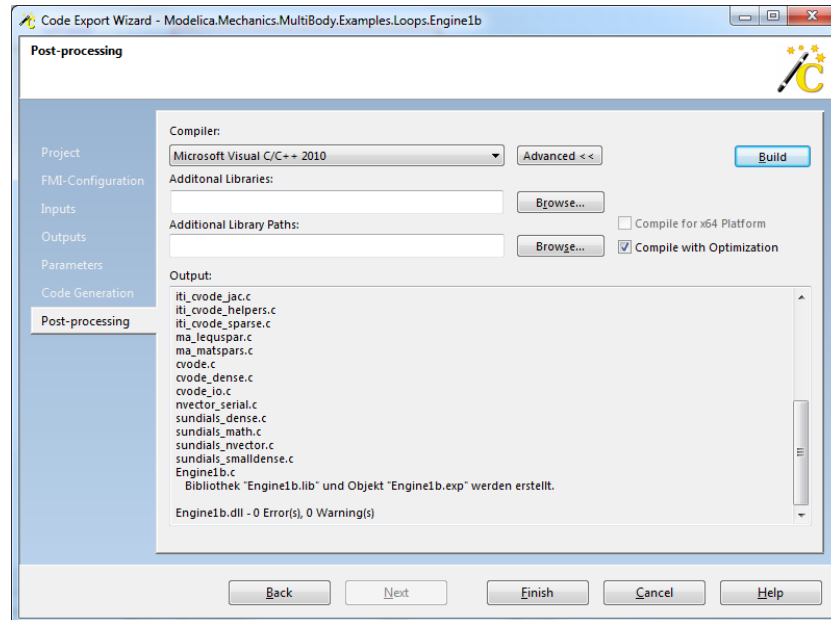

Figure 5: Post-Processing page of Code Export Wizard.
12. In the Post-Processing Tab, the actual FMU will be generated. Choose compiler “Microsoft Visual C/C++ 2010” and hit “Built”. The code will be generated and the output window will show the progress. Two build routines will run since the FMU is supposed to be compatible to both win64 and win32 platforms. After the build process has completed, the output according to Figure 5 will show up. Hit finish.